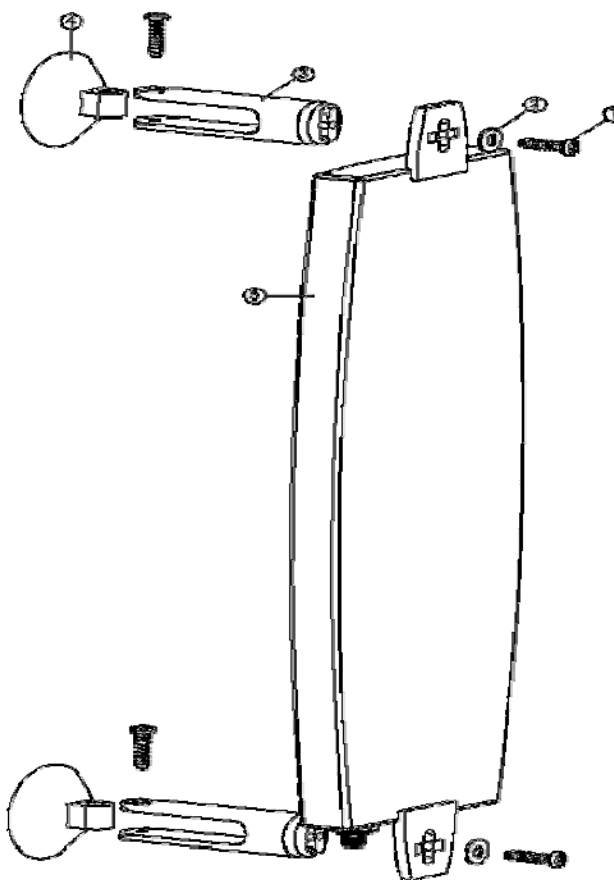

Figure 2-18: Window Mounting with Rotation Capability
- 1 Attach the rotation bars to the antenna and the suction cups to the rotation bars. Refer to Figure 2-18 for directions.